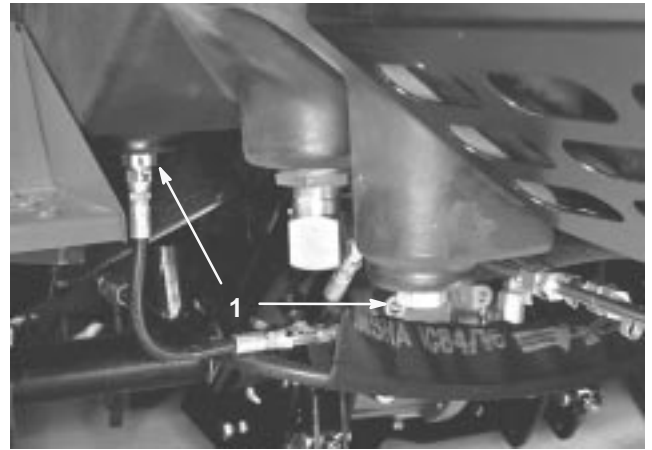

Figure 46
- Remove drain plug from rear of reservoir and hydraulic line from front of reservoir (Fig. 46) and let hydraulic oil flow into drain pan. Reinstall and tighten plug and line when hydraulic oil stops draining.